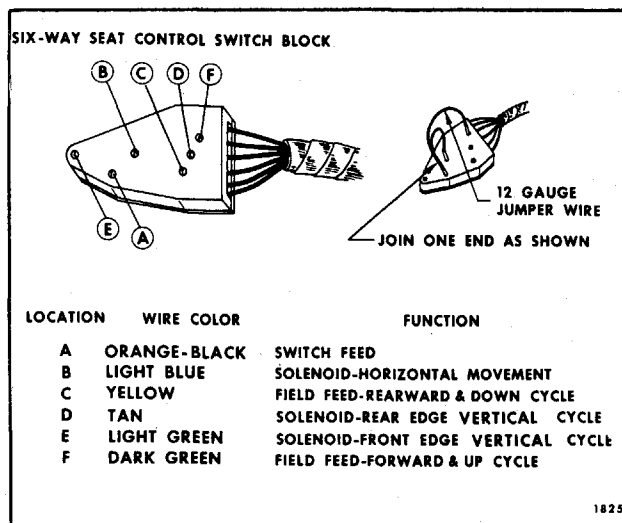

Fig. 10-30-Six-Way Seat Switch Block in Seat Side Panel
NOTE: In the following operations which specify the seat control switch to be actuated, a switch that has been checked for proper operation may be connected to the switch block. If a switch is not available, a three-way jumper wire can be made to perform the switch function. The jumper wire and the switch locations to be connected to obtain a specific movement of the seat are shown in Figures 10-30 and 10-31. If a jumper wire is used, letter the locations on the switch block as indicated in the illustration. Details outlining the making and use of the jumper wire follow the checking procedure.
To make jumper wire, obtain two pieces of no. 12 gauge wire, each 4-1/2" long, join one end of each wire as shown in Figure 10-30. The joined end can be inserted in the feed location in the switch block; one of the remaining ends can be inserted into one of the field locations in the switch block; the other end can be inserted into one of the solenoid locations.
1. On bodies with switch in seat side panel (Fig. 10-30) proceed as follows: